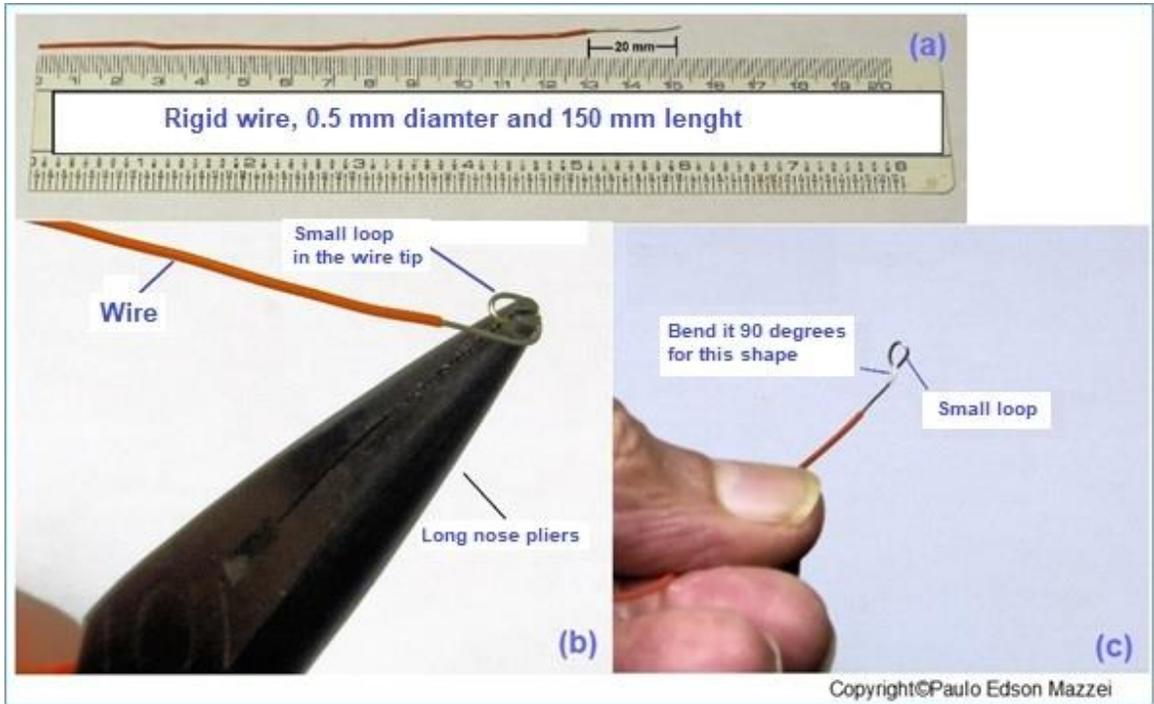

Figure 63 - Preparing the small loop in the tip of the wire.
See in sequence the photos, which are self-explanatory. Figures 63 to 66.
4. Now see the resistance measurement of the 560 Ω resistor in Figure 63.